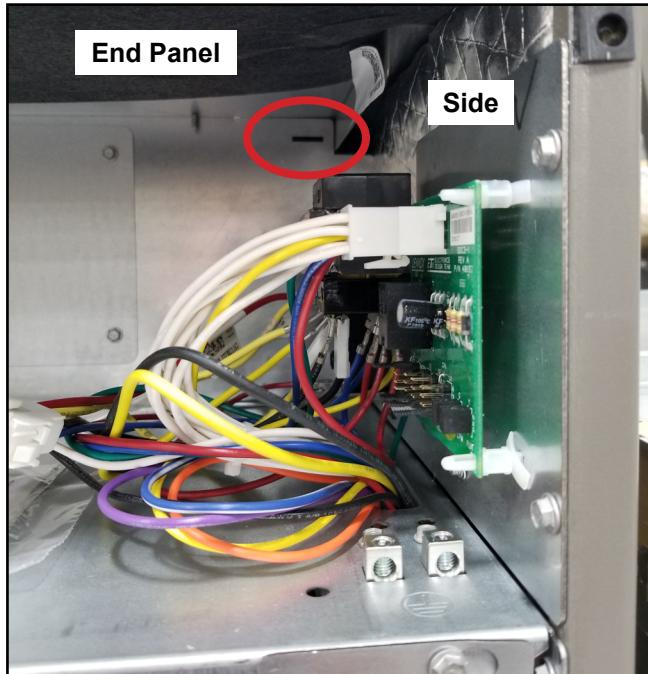

Figure 11. Electrical Connections
2. Slide the control panel into the notch on the electric heat mounting panel (Figure 11). Using the screws removed in Step 1, secure the control panel to the end panel.